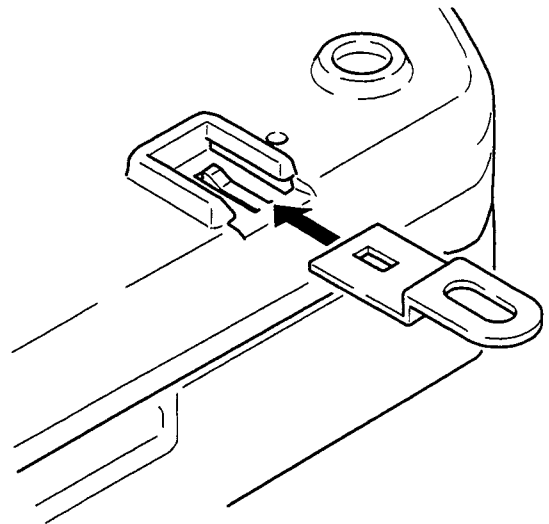

Figure 10: Mounting Bracket Installation
22. Install the four (4) mounting brackets to the underside of the "A" cartridge as shown in Figure 10.